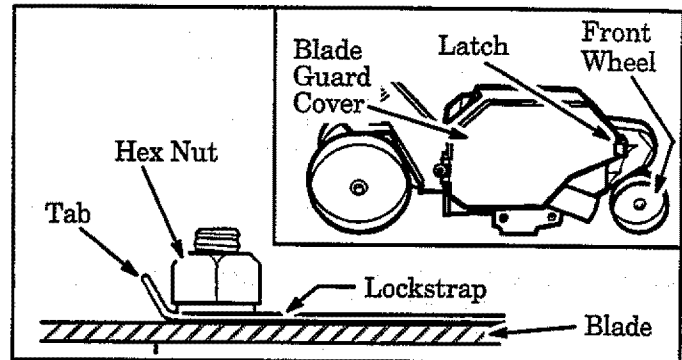

Figure 10
2. Push the latch toward the front wheel and open the blade guard cover. Figure 10 (inset).
3. Bend the tabs on the lockstrap away from the hex nuts. Figure 10.